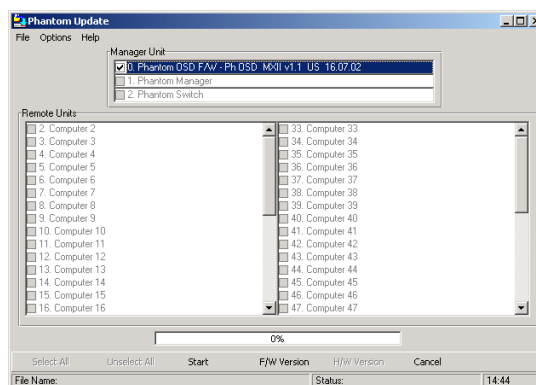

Figure 6-5 The OSD Manager option
3. In the **Manager Unit** box, check the OSD option. See Figure 6-5 below.